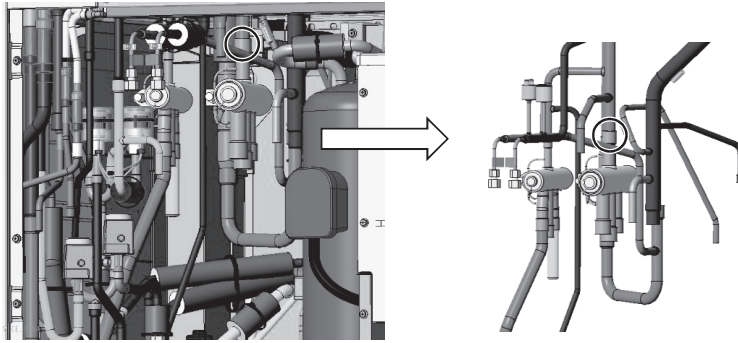

Figure 13
- (13A) Remove four-way valve (21S4a) by removing the braze from the area above four-way valve (21S4a) as shown in Figure 13.